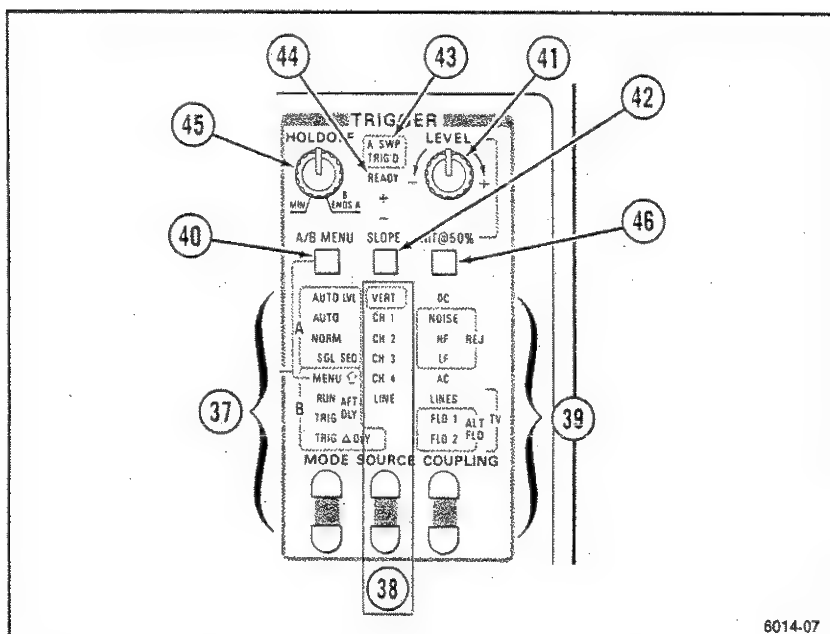

Figure 5-6. Trigger controls and indicators.
Refer to Figure 5-6 for the location of items 37 through 46.